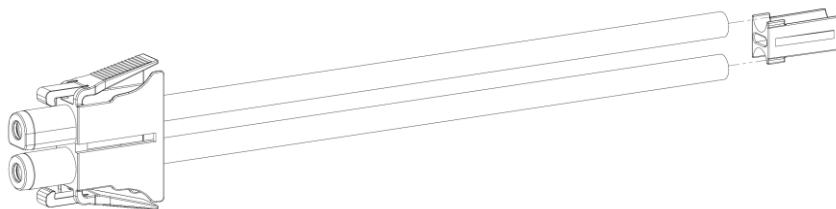

Fig. 2-21: Insert Retainer
57. Insert retainer into plug housing as shown in Fig. 2-21 Ensure the retainer flanges are inserted into the connector first.